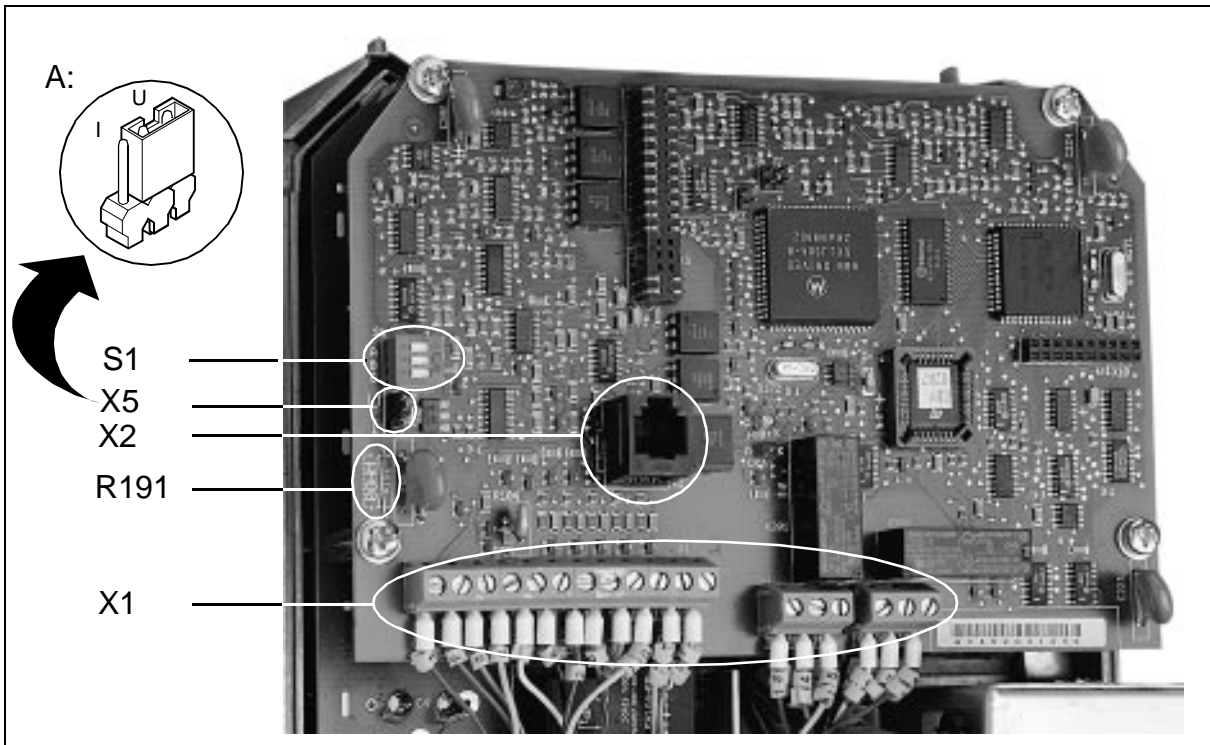

Figure 4-1 Control Card
The analogue input signal is selected with jumper X5 as shown in figure 4-1 enlargement A: I = current 0(4) to 20 mA and U = voltage 0(2) to 10 V.
1) Refer to figure 4-1 "Control Card" on page 24 for voltage/ current reference selection.